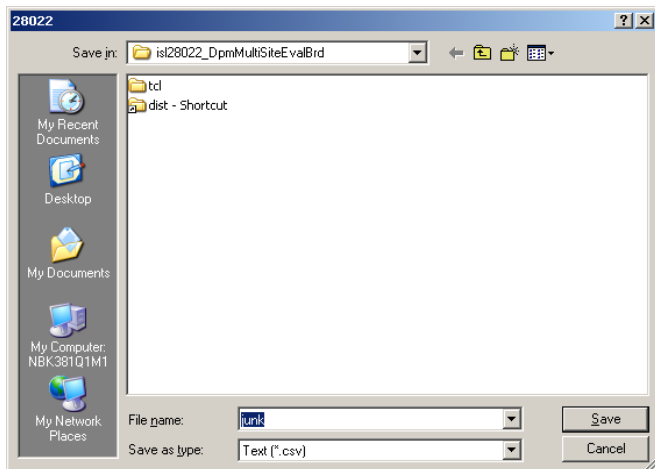

FIGURE 7. FILE NAME AND DIRECTORY SAVE DIALOG BOX
- The DPM software allows the user to store a set number of points of data. Go to the menu bar of the ISL28022 DPM Demo Software window and choose File → Save Data. Choosing the Save Data option will open a dialog box asking for the filename and directory of the save path. Figure 7 is an illustration of the dialog box.